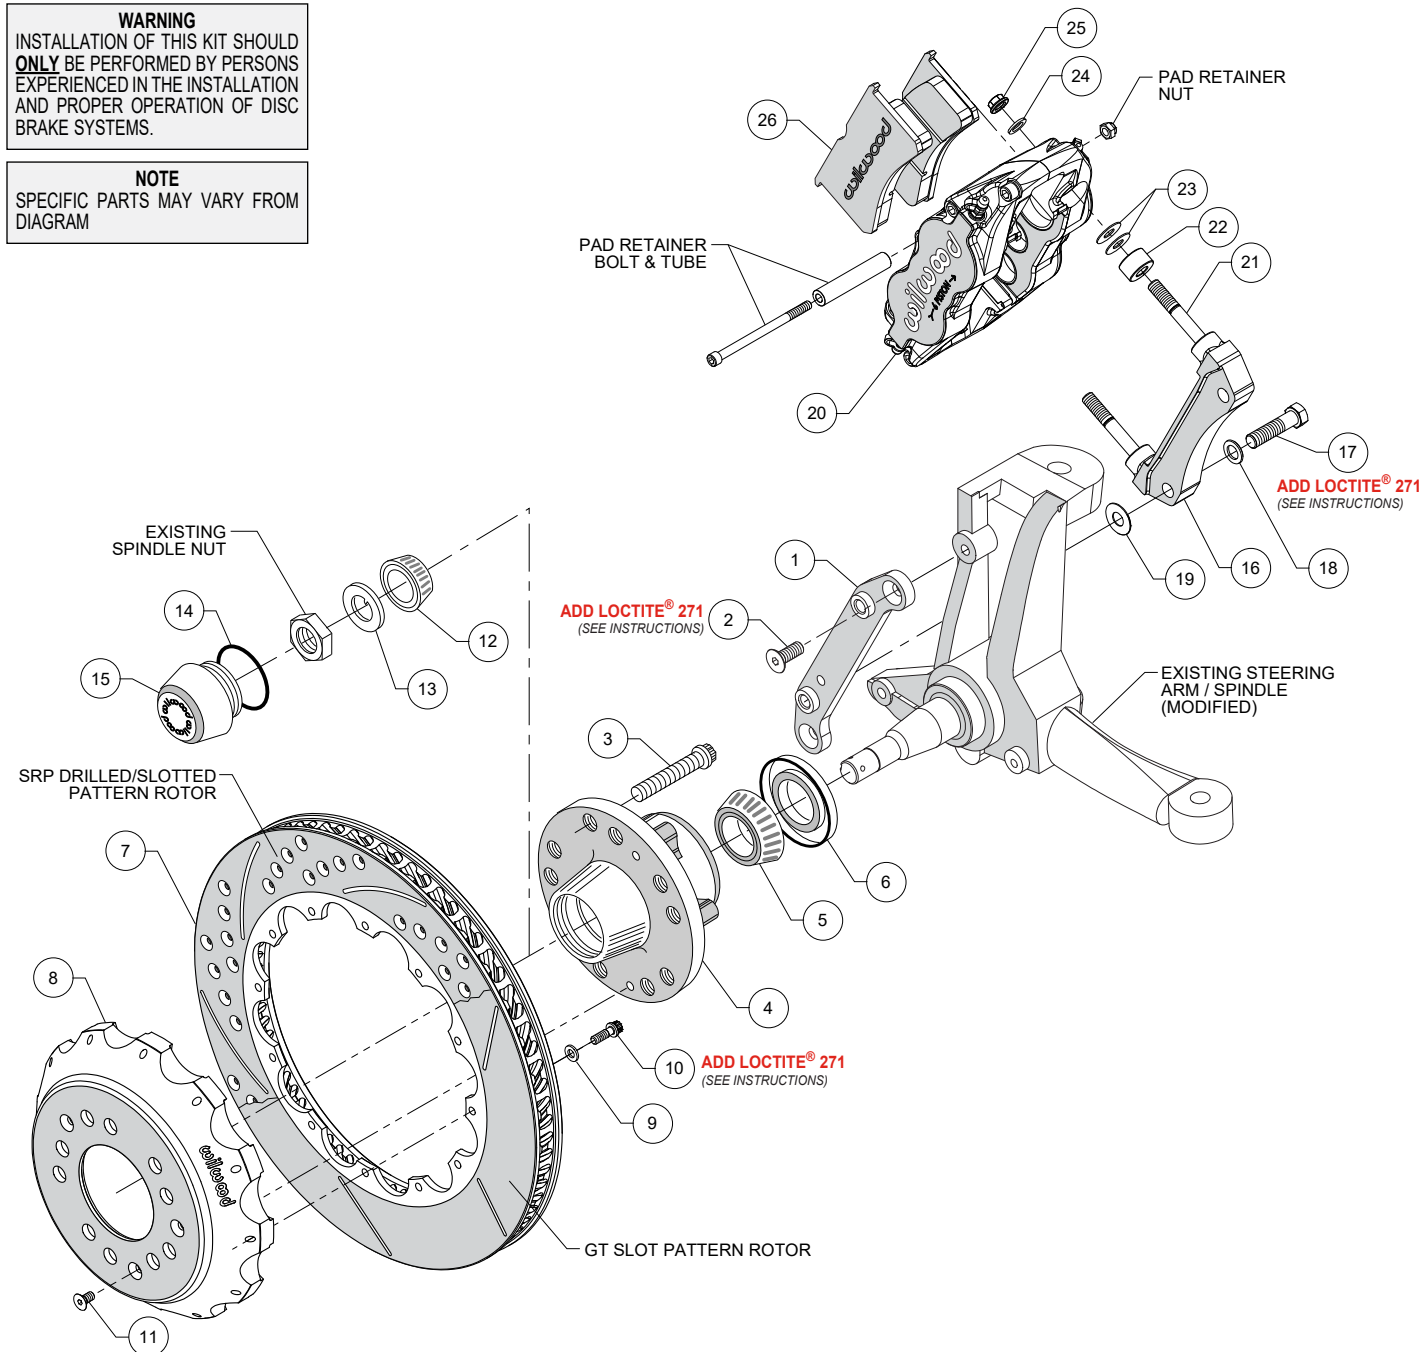
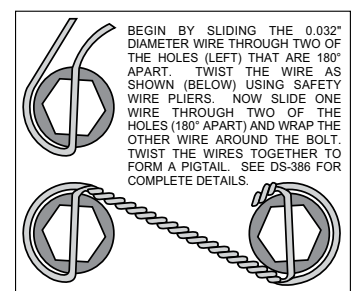

Figure 2. Typical Installation Configuration
Figure 4. Safety Wire Diagram
NOTE: Numbers in parenthesis refer to the parts list on the preceding page and Figure 2.
- Orient the caliper mounting flat bracket (1) as shown in Figure 2 and install using bolts (2). **NOTE:** Be sure the heads of the flat mount bracket clinch nuts (1) are facing outward toward the wheel. Temporarily tighten the mounting bolts. **NOTE:** The bracket must fit squarely against the mount bosses on the upright. Inspect for interference from casting irregularities, machining ridges, burrs, etc. After the bracket fitment has been checked, remove the bracket mounting bolts (2) one at a time, apply red *Loctite*® 271 to the threads and torque to 30 ft-lb.
- Install five new wheel studs (3) into the hub (4). Torque to 77 ft-lb. **NOTE:** There are two five lug patterns in the hub (5 x 4.50 and 5 x 4.75). Make sure of the correct hole pattern for the correct wheel application before installing studs into hub.
- Pack the large inner bearing cone (5) with high temperature disc brake bearing grease (available from your local auto parts store) and install into the backside of the hub (4).
- Install the grease seal (6) by pressing into the backside of the hub (4).
- Pack the small outer bearing cone (12) with high temperature disc brake bearing grease and install into front side of the hub (4). Slide the hub assembly (4, 5, 6 and 12) onto the spindle. Secure using spindle washer (13), stock adjusting nut, and nut locking device. Adjust wheel bearing pre-load per Original Equipment Manufacturer (OEM) specifications.
- Install the o-ring (14) and the dust cap (15) into the hub (4). **NOTE:** O-ring (14) friction will not allow cap (15) to unscrew on its own.
- With the larger I.D. side of the rotor (7) facing away from the hat (8), bolt rotor (7) to hat (8) through the backside of the rotor using washers (9) and bolts (10). Apply red *Loctite*® 271 to the bolt threads and torque to 155 in-lb using a criss-cross pattern. For an added measure of security, the bolts may be safety wired using standard 0.032 inch diameter stainless steel safety wire as shown in Figure 4. Please refer to Wilwood's data sheet DS-386 (available at www.wilwood.com/Pdf/DataSheets/ds386.pdf) for complete safety wire installation instructions.
- Slide the rotor/hat assembly over the studs (3) in the hub (4) taking care to align the small countersunk holes in the hat (8) with the small threaded holes in the hub (4). Install three flat head socket head screws (11) through the small holes in the hat (8) and torque to 85 in-lb. Check to be sure the hat seats squarely against the hub face.
NOTE: Please reference the caution statement at the beginning of the assembly instructions. The radial mount caliper bracket (16) should initially be installed with clean, dry threads on the mounting bolts (17). Orient the bracket, as shown in Figure 2 and install using bolts (17) and washers (18). Initially place one .030" thick shim (19) on each bolt between the radial mount caliper bracket (16) and caliper mounting flat bracket (1), Figure 2. Temporarily tighten the mounting bolts. Later, after the caliper alignment has been checked, the mount bolts will be secured using red *Loctite*® 271.
•**NOTE:** This kit contains distinct right and left hand calipers that must be mounted in a specific direction, as described below. Initially place spacer (22) and two .035" thick shims (23) on each stud (21) as shown in Figure 2. Mount the caliper (20) onto the radial mount caliper bracket (16) using lock nuts (25) and washers (24), Figure 2. Ensure that the caliper is mounted so the largest pistons are at the rotor exit end of the caliper, in relation to the forward direction of rotor rotation. Temporarily tighten the lock nuts and view the rotor through the top opening of the caliper. The rotor should be centered in the caliper. If not, adjust by adding or subtracting .030" shims (19) as necessary between the radial mount caliper bracket (16) and the caliper mounting flat bracket (1). Always use the same amount of shims on each of the two mounting bolts (17). Once the caliper alignment is correct, remove the radial mount caliper bracket bolts (17) one at a time, apply red *Loctite*® 271 to the threads, and torque to 47 ft-lb.
•Remove the caliper pad retainer bolt, locknut, and tube from the caliper. Slide the brake pads (26) into place. They should install easily without interference. Check that the outside radius of the brake pad is flush with the outside diameter of the rotor face. Add or subtract shims (23) between the caliper and mount bracket to gain the proper alignment. Reinstall the caliper and torque the caliper nuts (25) to 28 ft-lb. Reinstall the pad retainer tube, bolt, and locknut. The locknut should be snug without play in the bolt or tube. Be cautious not to over tighten.